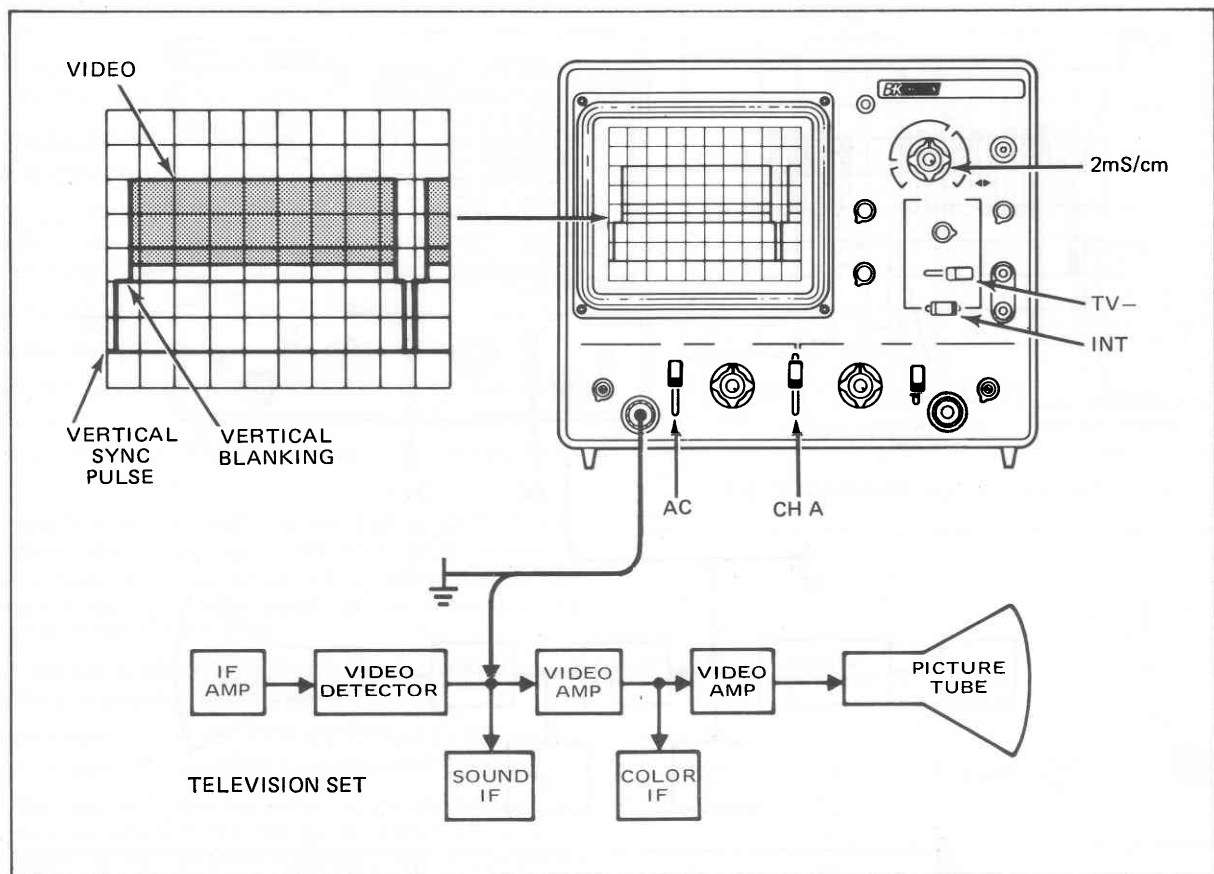
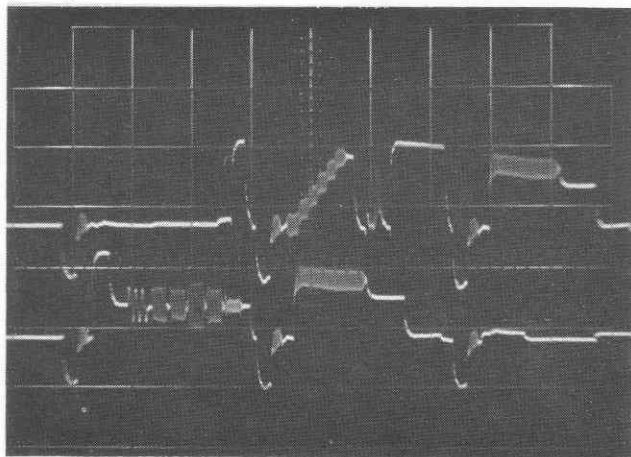
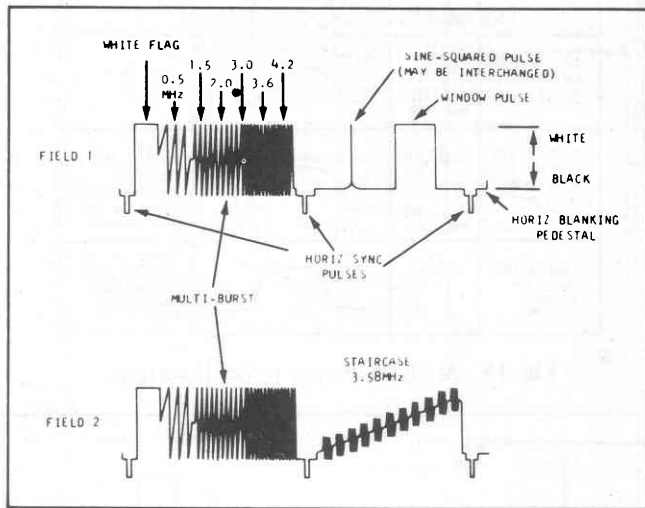
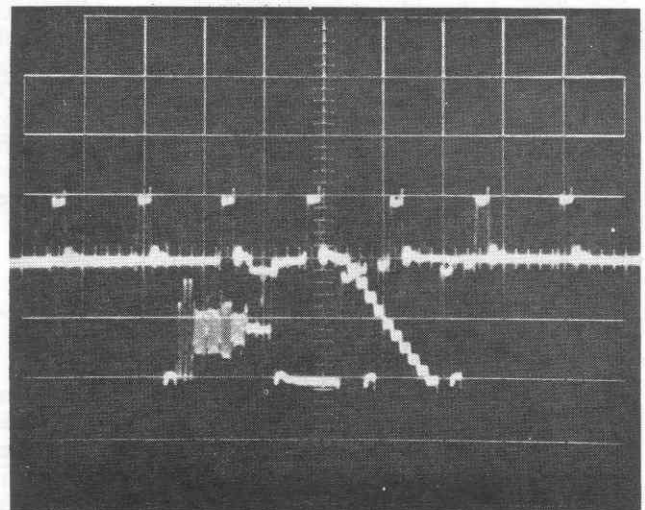

Fig. 14. Set-up for viewing fields 1 and 2 of VITS information.
Fig. 15. Oscilloscope presentation of fields 1 and 2 of VITS information.
Fig. 20. VITS signal, fields 1 and 2.
Fig. 22. Oscilloscope presentation of VITS information, single-trace operation.
Many of the television servicing procedures can be performed using single-trace operation. These are outlined later in the applications section covering single-trace operations. One of these procedures, viewing the VITS (vertical interval test signal), can be accomplished much more effectively using a dual-trace oscilloscope. As outlined in the single-trace applications section and as shown in Fig. 20 and 21, the information on the Field #1 and Field #2 vertical blanking interval pulse is different. This is shown in detail in Fig. 20. Also, because the oscilloscope sweep is synchronized to the vertical blanking interval waveform, the Field #1 and Field #2 waveforms are superimposed onto each other as shown in Fig. 22. With dual-trace operation, the signal information on each blanking pulse can be viewed separately without overlapping. Fig. 14 indicates the oscilloscope control setting for viewing the alternate VITS.
2. The control settings of Fig. 14 are those required to obtain a 2-field vertical display on Channel A.
9. Pull the ◀▶POS control outward to obtain an additional 5X magnification. Rotate the control in a counterclockwise direction moving the traces to the left until the expanded VITS information appears as shown in Fig. 15.
Fig. 15 shows the dual-trace presentation of the Field #1 and Field#2 VITS information. The Field #1 information is displayed on the trace.
The transmitted VITS is a precision sequence of specific frequency, amplitude, and waveshape as shown in Fig. 20 and 21. The television networks use the precision signals for adjustment and checking of network transmission equipment, but the technician can use them to evaluate television set performance. The first frame of the VITS (line 17) begins with a "flag" of white video, followed by sine wave frequencies of 0.5 MHz, 1.5 MHz, 2 MHz, 3 MHz, 3.6 MHz, (3.58 MHz) and 4.2 MHz. This sequence of frequencies is called the "multi-burst." The first frame of Field #2 (line 279) also contains an identical multi-burst. This multi-burst portion of the VITS is the portion that can be most valuable to the technician. The second frame of the VITS (lines 18 and 280), which contains the sine-squared pulse, window pulse and the staircase of 3.58 MHz bursts at progressively lighter shading, are valuable to the network, but have less value to the technician. As seen on the television screen, Field #1 is interlaced with Field #2 so that line 17 is followed by line
7. The waveform should be similar to that shown in Fig. 22. For the oscilloscope display, each vertical sync pulse starts a new sweep. This causes line 17 and line 279 (multi-burst) to be superimposed, as are lines 18
8. The presentation of the preceding paragraphs (Fig. 22) is the limit of observation possible with a single-trace oscilloscope. With the Model 1471 oscilloscope, however, a single-field VITS presentation can be obtained by placing the MODE switch in the dual position. This causes the Channel B information to be displayed on alternate sweeps, as are Field #1 and Field #2 VITS. Because there is no provision for preselecting Field #1 or Field #2 information, either Field #1 or Field #2 (Fig. 15) will appear. The multi-burst information in the VITS is the most valuable for troubleshooting television receivers and, because it is present on both Field #1 and Field #2 VITS, either can be used for troubleshooting and signal tracing.